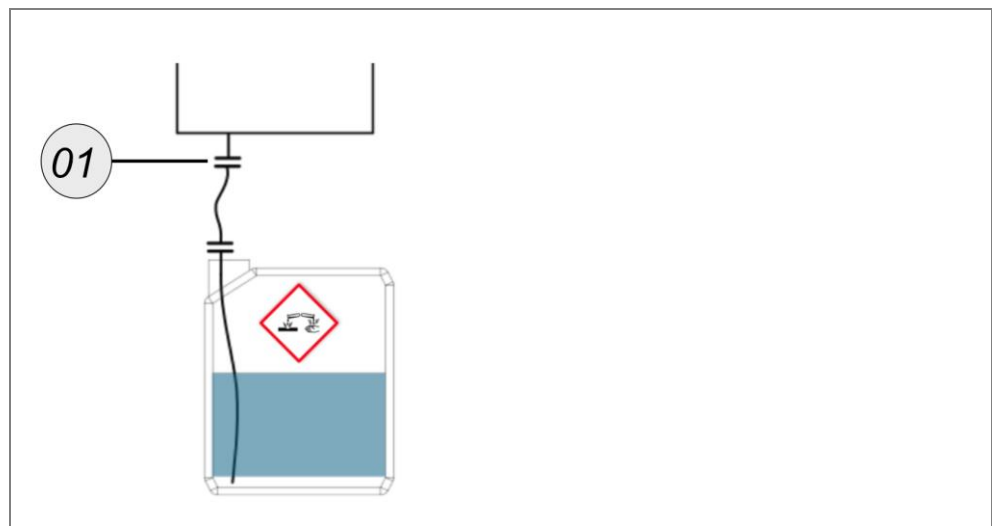

Fig. 2
- ▶ Connect a condensate canister to the condensate outlet (Fig. 2).